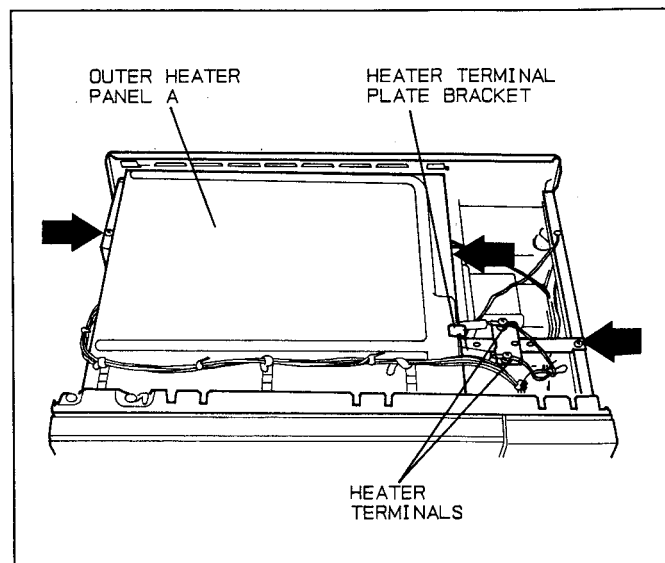
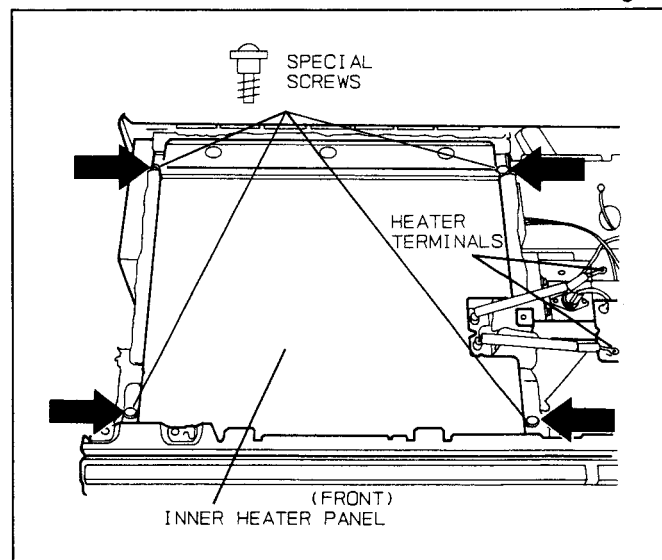
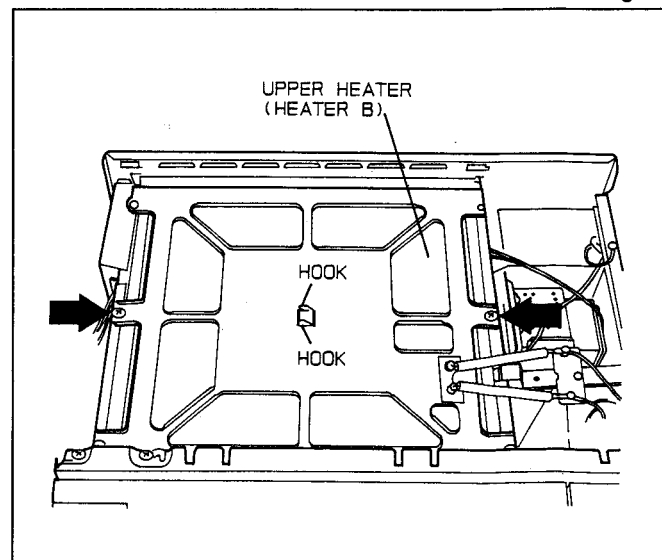

Fig. 25
Fig. 26
Fig. 27
- (A) Release humidity sensor wires from 3 lead wire holders and disconnect sensor connector from D.P.C..
- (B) Remove 2 nuts holding 2 heater terminals. (Fig. 25)
- (C) Remove a screw holding heater terminal plate bracket.
- (D) Remove 2 screws holding heater panel A and lift off the panel.
- (E) Remove 4 screws holding inner heater panel and lift out. (Fig. 26)
- (F) Remove adiabatic material B.
- (G) Remove the upper heater (heater B) by carefully freeing the 2 hooks holding the center portion of heater and removing 2 screws. (Fig. 27)
- NOTE : Special screws are used to hold the inner heater panel and heater B. (Fig. 26 & 27)